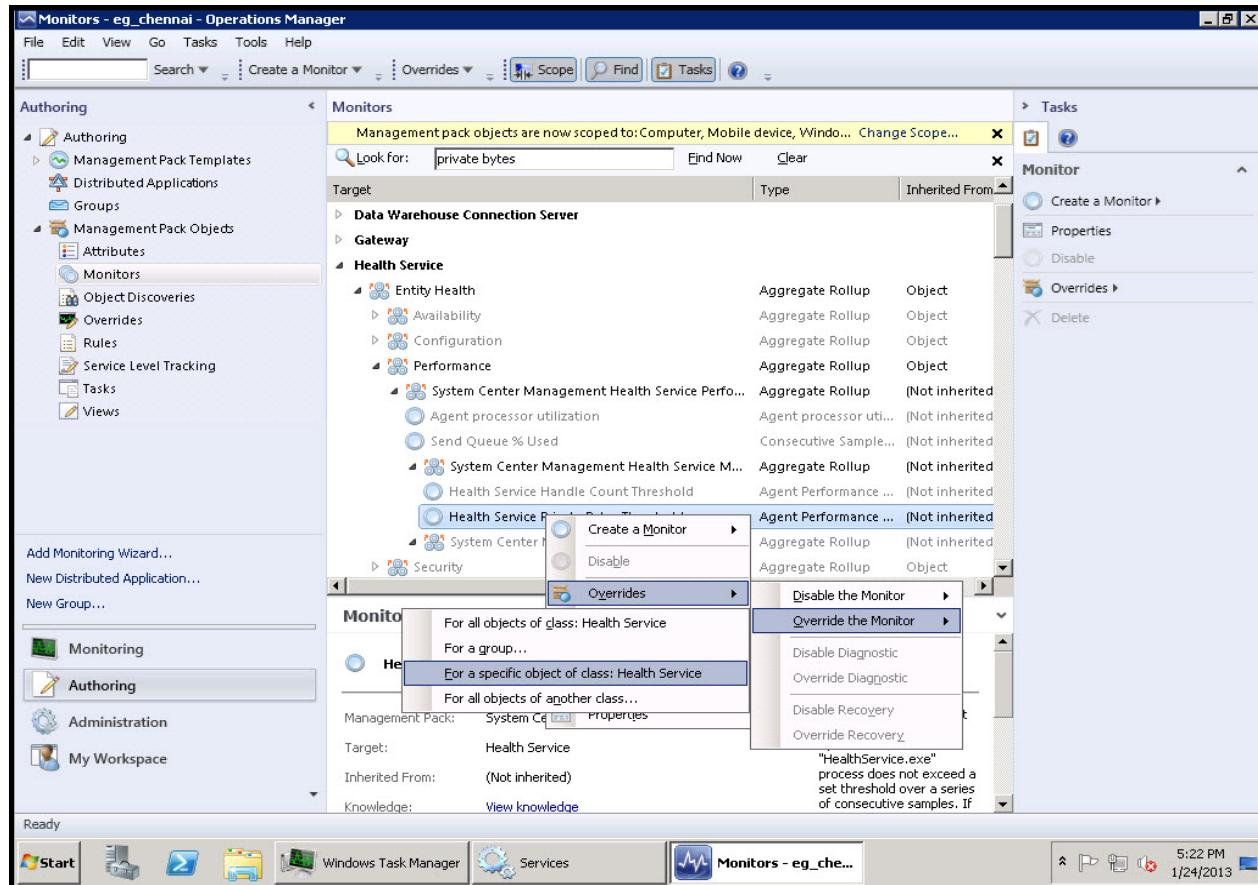

Figure 3.16: Overriding the 'Health Service Private Bytes Threshold' monitor
3. First, scroll down the list of monitors to look for the target, **Health Service**. Under the **Performance** category of that target, look for the monitor named, **Health Service Private Bytes Threshold**. Then, right-click on that monitor and follow the menu sequence, *Overrides -> Override the Monitor -> For a specific object of class: Health Service* (see Figure 3.16).
6. You will then return to the **Monitors** view of Figure 3.16. Now, from the **Performance** category of the **Health Service** target, right-click on the monitor named **Health Service Handle Count Threshold**, and follow the menu sequence: **Overrides -> Override the Monitor -> For a specific object of class: Health Service**